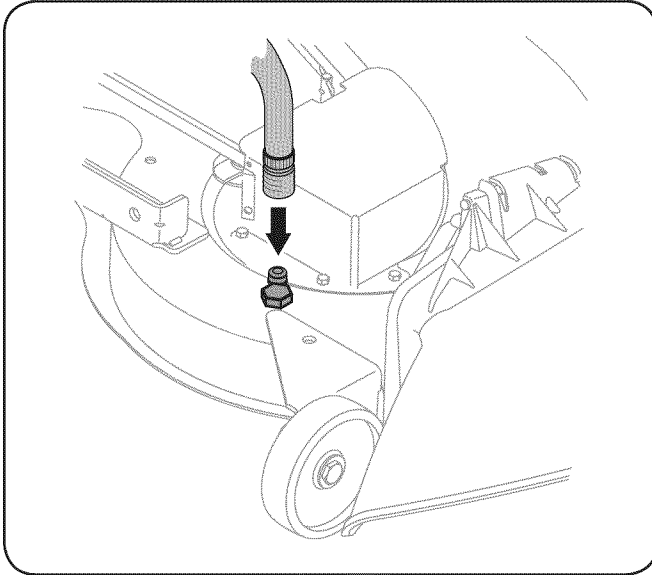

Figure 6-2
- Attach the hose coupler to the water port on your decks surface. See Fig. 6-2.